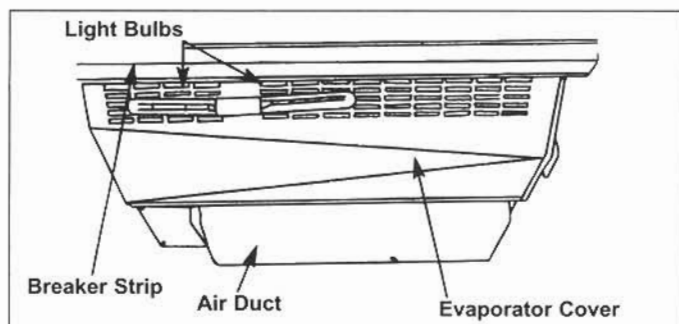

Figure 2-28. Model 511, 550 Freezer Compartment, Top
1. To access and remove the evaporator fan assembly, the freezer air duct and evaporator cover will need to be removed first (Figure 2-28).